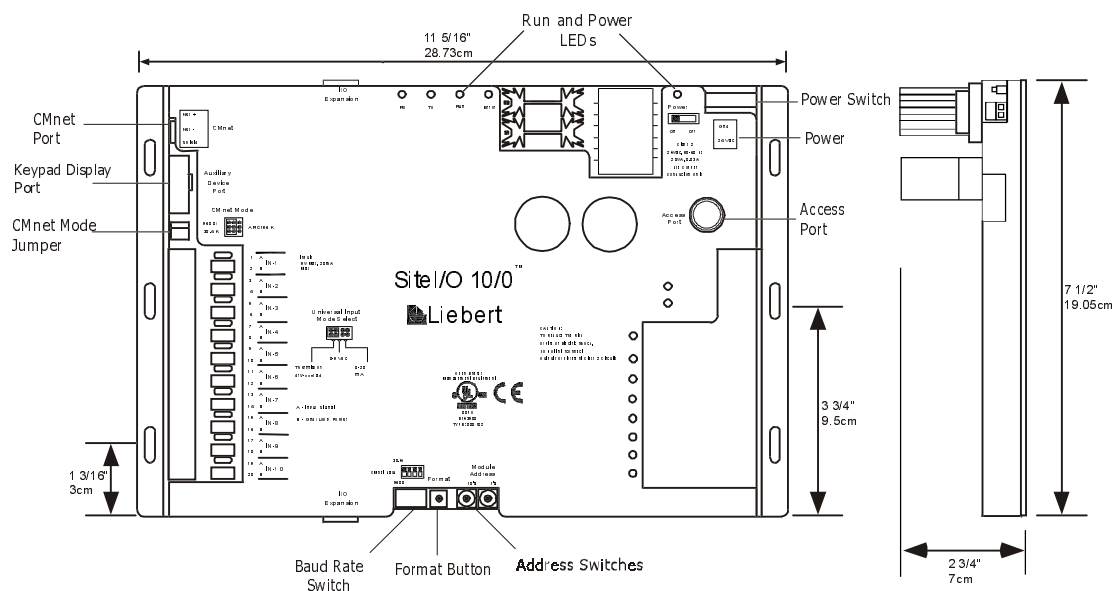

Figure 1. Module Dimensions and Layout
3. Connect the power wires to the module's power terminals labeled Gnd and 24VAC (see Figure 1 on page 2 for location).
When the module turns on, the Run and Power LEDs turn on and the Run LED begins blinking. (See Figure 1 for the LED's location.) If the module does not respond, call Liebert Global Services.
2. Press and hold the Format button (see Figure 1 on page 2 for location).